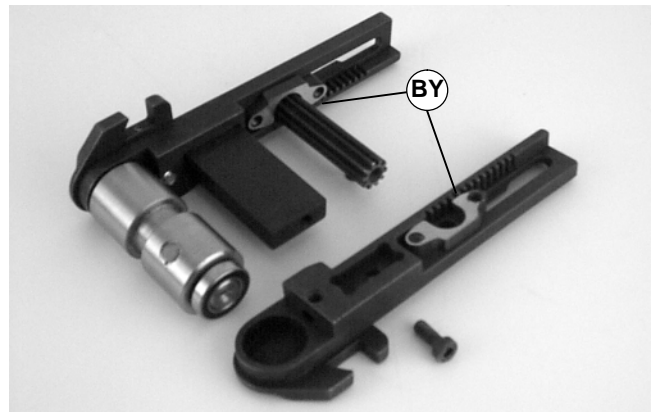

Figure 56
**IMPORTANT:** On a tension tail assembly, orient both pinion housings (BY of Figure 56) so they engage the same tooth positions on their respective racks.